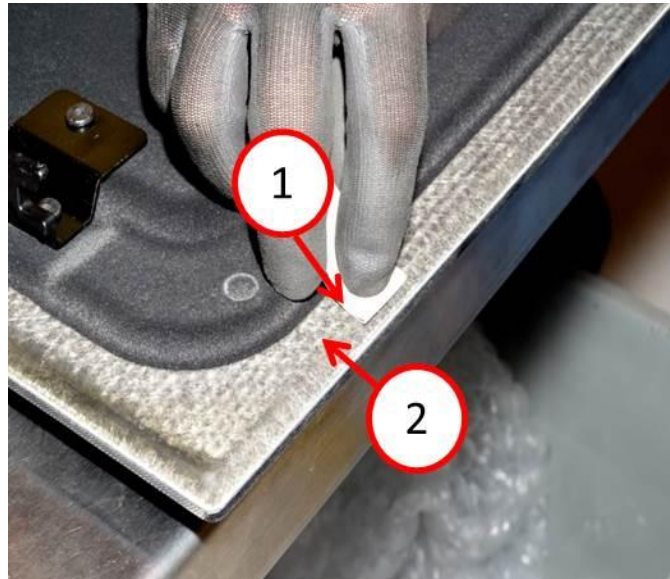

Fig. 16 Sanding Front Panel Edge
65. Using 80 grit sandpaper, sand the entire front edge of rear the roof panel from left to right (Fig. 16).
66. Using 100 grit sandpaper, sand the entire front edge of the roof panel again (Fig. 16).